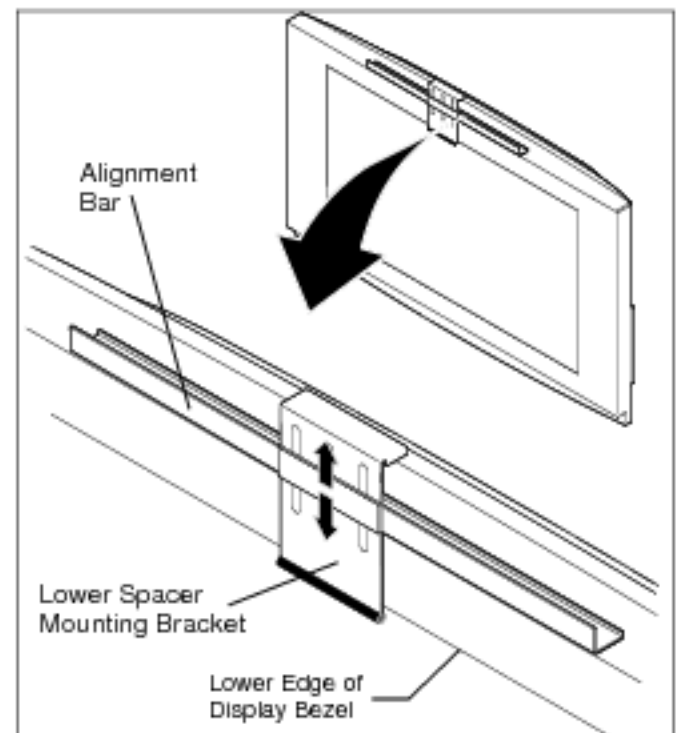

Figure 4
5. Position spacer assembly on top of display with wing nuts facing towards rear of display and alignment bar resting on display top. (See Figure 4)
6. Slide *LOWER* spacer mounting bracket up or down until rubber edge on bottom of bracket is aligned with lower edge of display bezel. (See Figure 4)